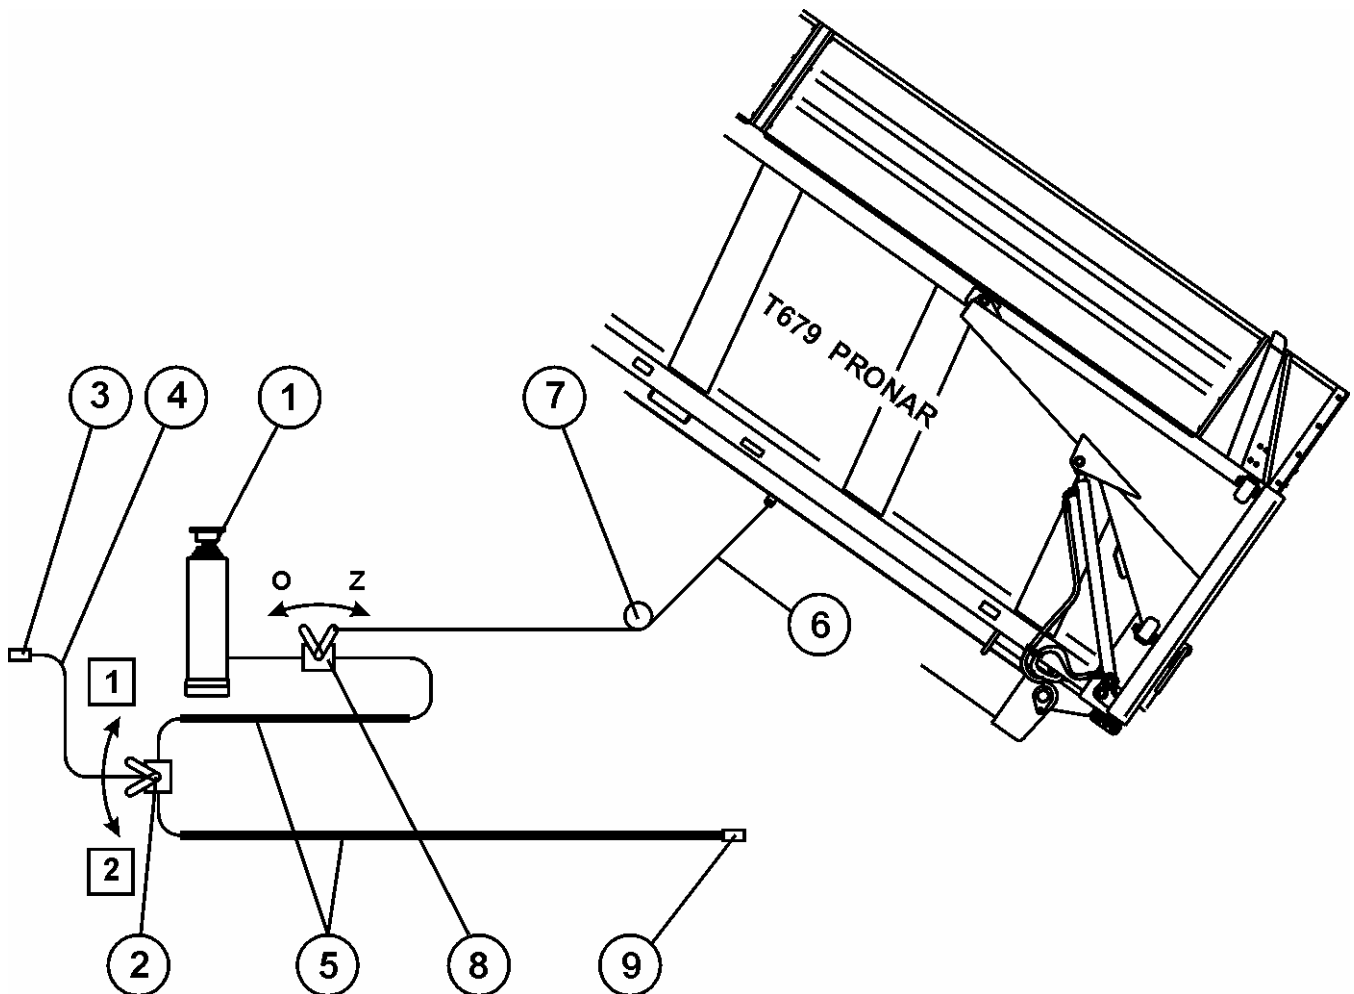

Fig. 5 Load crate tilt hydraulic system.
Both circuits are operated with the control valve 2 (fig. 5). The valve lever can be set in two positions:
The purpose of the cable is to cut-off the flow of hydraulic oil to the cylinder (1) through switch-over of the cut-off valve (8) if maximum tilt angle is exceeded. The hydraulic system diagram is shown on the fig. 5.
The cut-off valve 8 (Fig. 5) reduces load crate tilting angle. The length of the cable is adjusted by the manufacturer and must not be readjusted by the user.